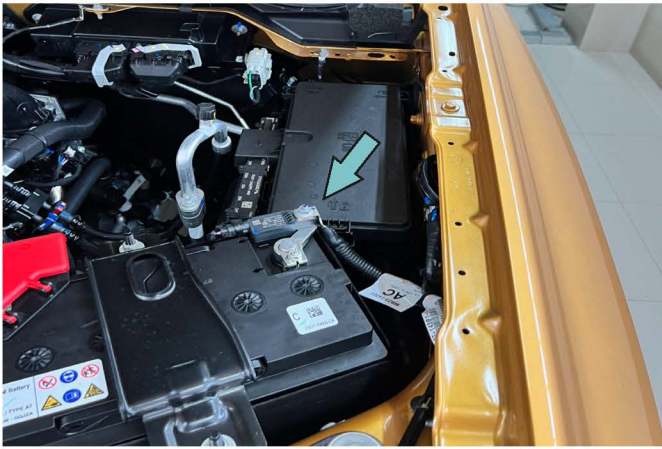

Fig. 1
1. Open the hood. Disconnect terminal “-” from the vehicle battery (Fig. 1).